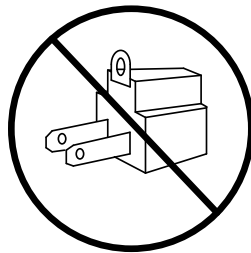

Figure 3
- Do not use an adapter. (See Figure 3).